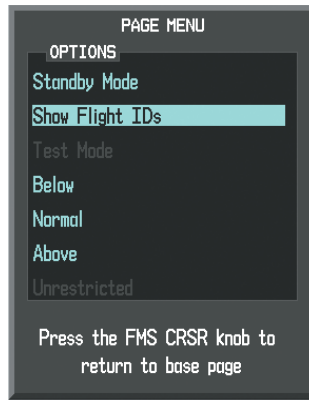

Figure 6-108 Traffic Map Page Menu
- 2) Turn the small **FMS** Knob to select 'Show Flight IDs' or 'Hide Flight IDs' (choice dependent on current state) (Figure 6-108).